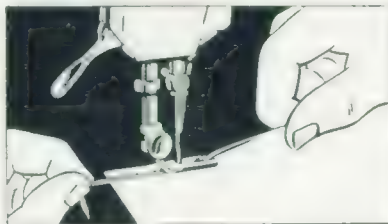

Fig. 39. Hemmer at Material and Pulling Back Threads While Sewing.
4. Lower the hemmer and begin to sew, slightly pulling threads back while sewing. Keep mouth of hemmer full to produce a smooth, even hem, as shown in Fig. 39.